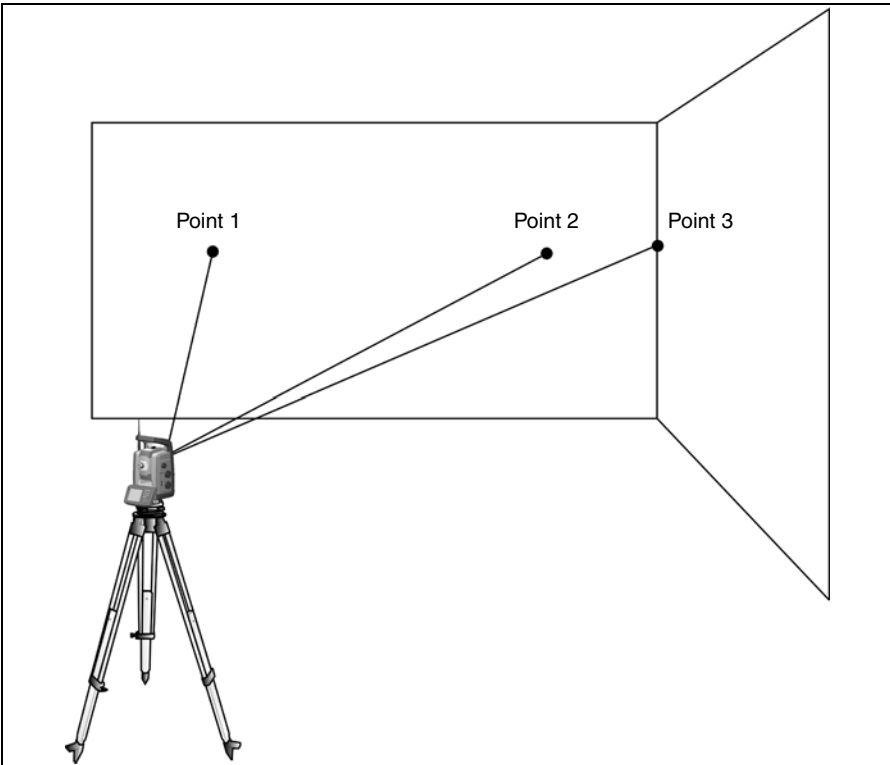

Figure 6.47 Offset measurement
2. Aim the instrument at the corner to store the correct horizontal and vertical angle. See figure 6.47